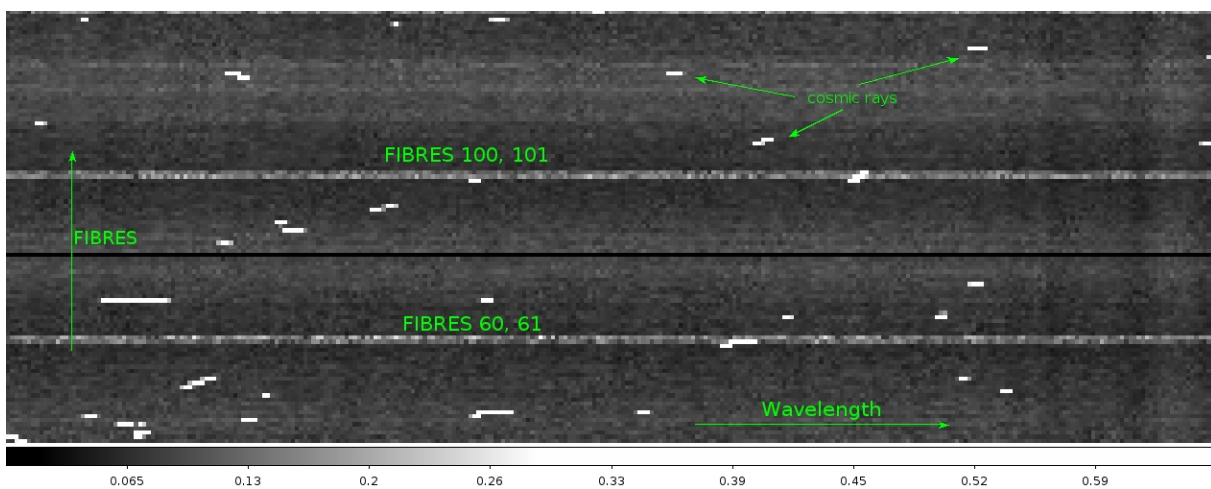

Figure 5.1.0: Example of 2D spectra where the marked fibers (60-61, and 100-101) are properly identified.
1. A defined set of fibers has intentionally null transmission in each quadrant. This helps the cross-correlation in the fiber identification process. These dead fibers are 20-21, 60-61, 100-101 and so on, i.e. two fibers each 40. By inspecting the 2D reduced spectrum `SCIENCE_FLUX_REDUCED.fits` it is possible to see whether the "dead fibers" are placed in the correct positions (see Figure 5.1.0).
An example of the effect that fiber misidentification has on the field-of-view is shown in Figure 5.1.0.
Figure 5.1.0: Example of field of view where fiber misidentification shuffled horizontally the fiber position (left panel), compared to one where fiber identification worked properly (right panel). The field of view refers only to quadrant 3.